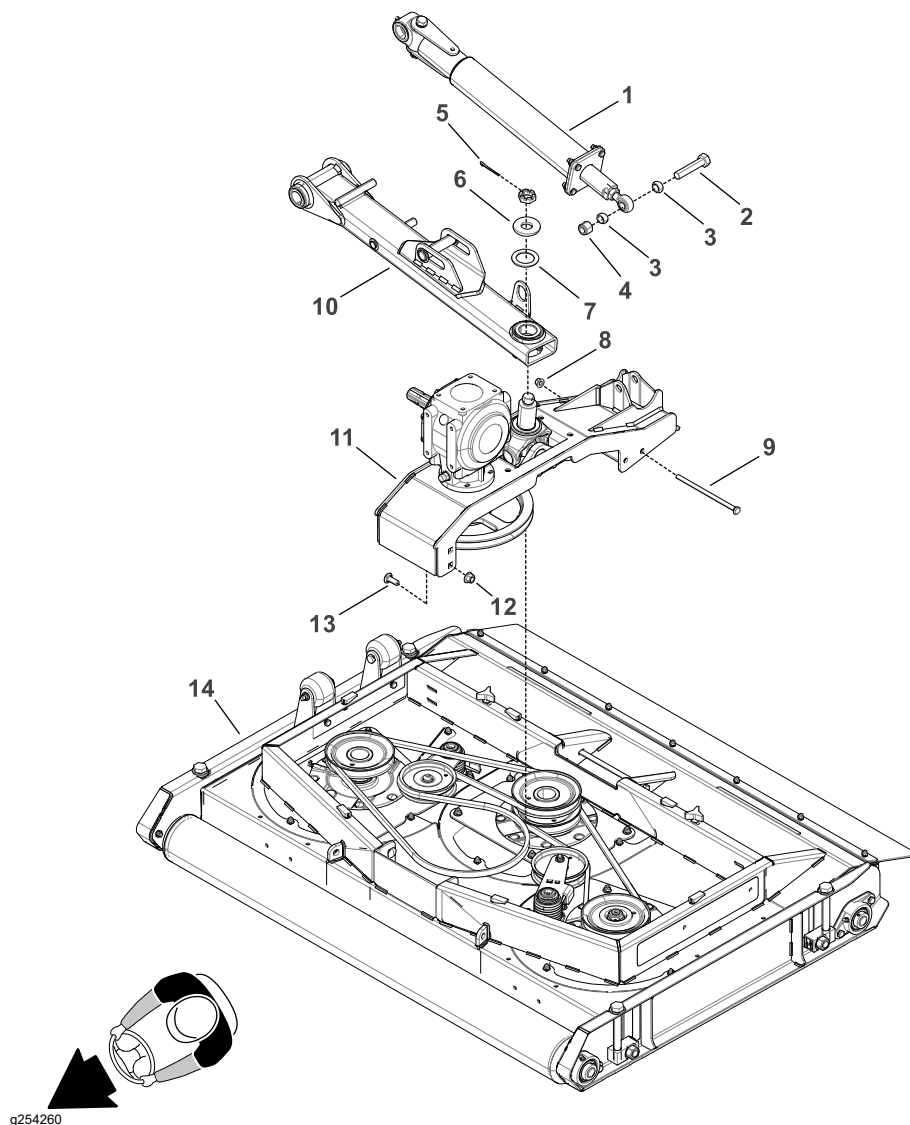

Figure 44
Note: Refer to Figure 44 during this procedure.
4. Connect the suitable hoist or lift to front and rear of the deck mount assembly. Slowly lower the deck mount assembly (item 11 in Figure 44) into the cutting unit assembly (14).